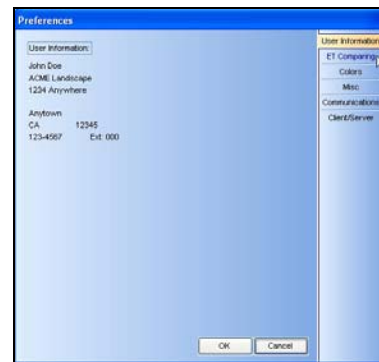

Figure 2.0.3
1. Click on the **ET Comparing** tab (Figure 2.0.3).